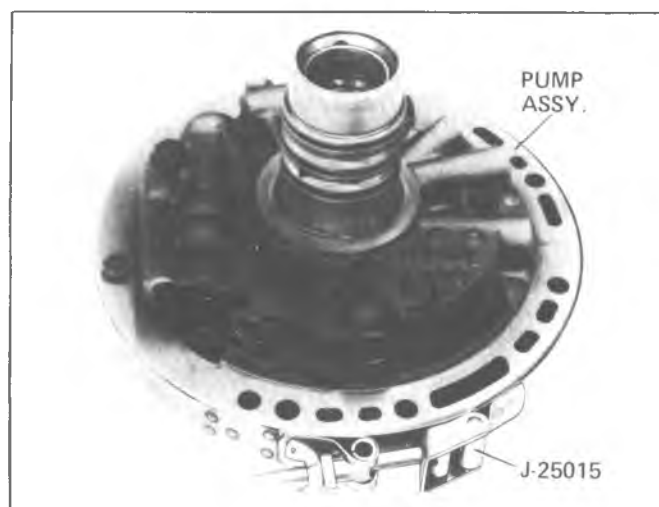

Fig. 7A-137A--Aligning Pump Cover and Pump Body
6. Install pressure regulator spring, guide, valve with stem end out, and bore plug, hole side out (Fig. 7A-126A).
7. Compress pressure regulator valve spring by pushing on bore plug with small screwdriver and install retaining ring (Fig. 7A-128A).
8. If removed, install 3 new oil seal rings, making sure cut ends are assembled in the same relationship as cut (Fig. 7A-120A). Also, make sure rings are seated in the grooves to prevent damage to the rings during reassembly of mating part over rings Retain with petrolatum.